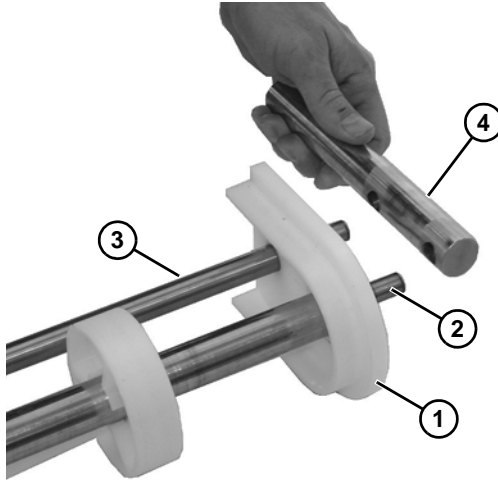

Figure 69
3. Install the pinch guard (Figure 69, item 1) to each side onto idler shaft (Figure 69, item 2) and pinch guard shaft (Figure 69, item 3).
4. Install the bearing end rod (Figure 69, item 4) onto idler shaft (Figure 69, item 2) and rod (Figure 69, item 3).